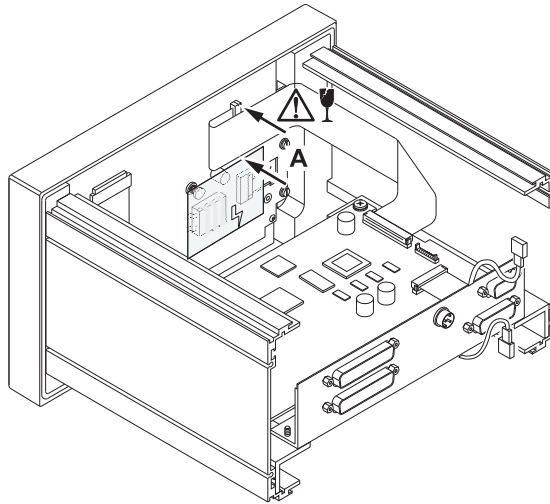

Fig. E 7-21: Connecting the display connecting cable
9. Place the plug of the flat display connecting cable exactly between the two guiding pins of the connector and connect it with the display pcb (A). Avoid damage of the cable because of canting. (Fig. E 7-21)